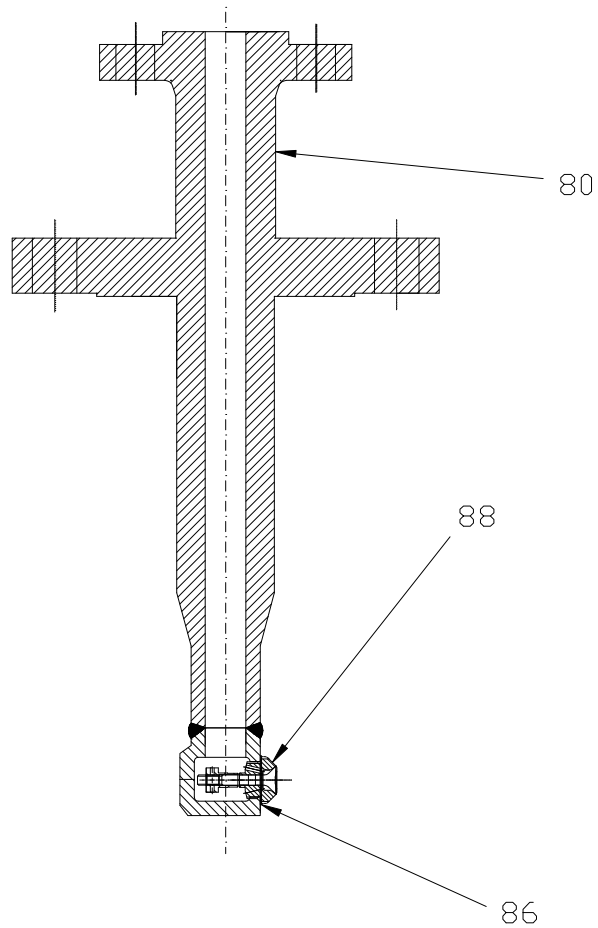

FIG. 2 - ASSEMBLY OF VARISPING PROBE TYPE
8.1 DISASSEMBLY OF PROBE TYPE (Fig.2)